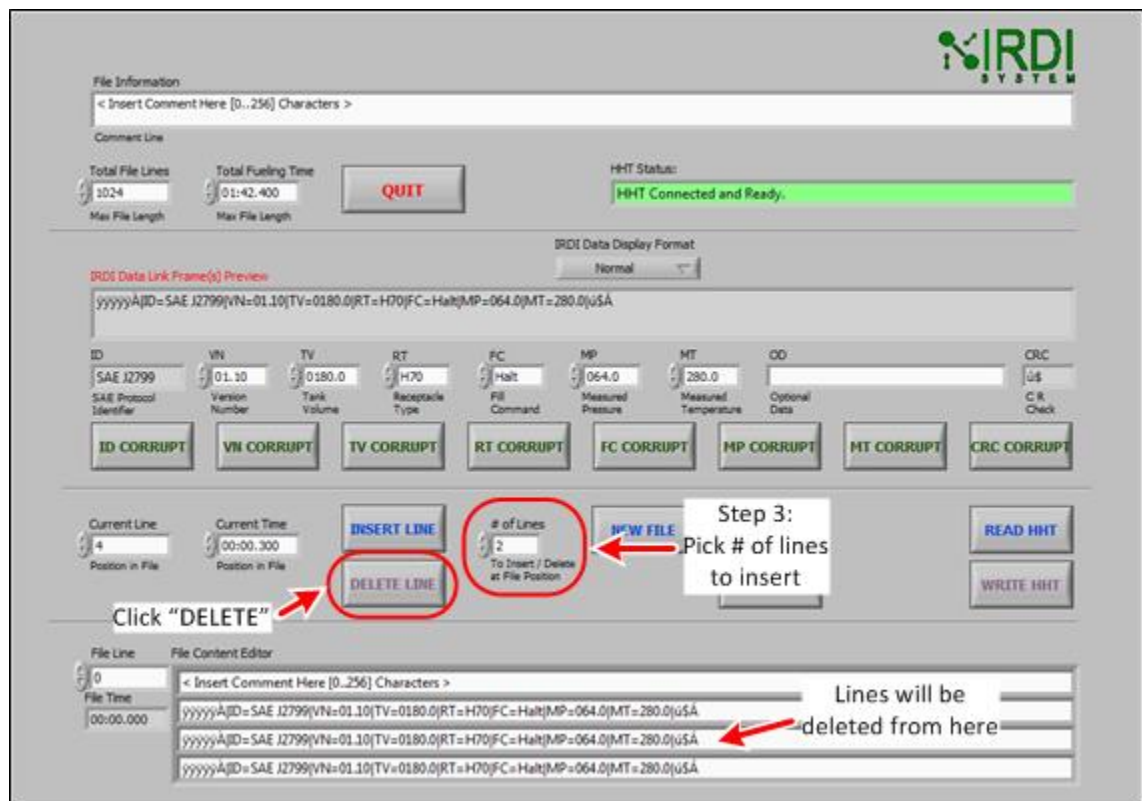

FIGURE 5-21 HHT TEST PATTERN SOFTWARE – SELECTING # OF LINES TO DELETE
STEP 1	Click in the “# of Lines” field, and enter the number of lines that you wish to delete from the file – see Figure 5-21.